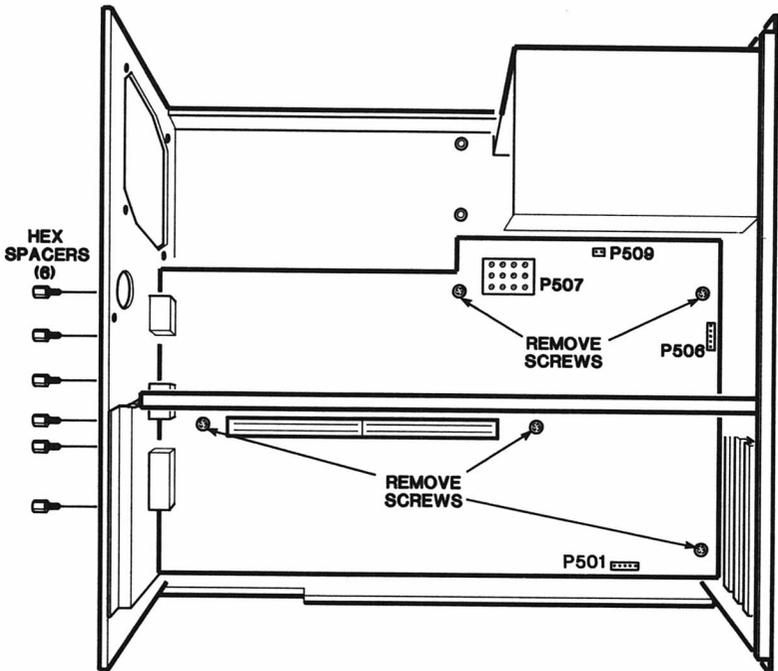

Figure 4-5. Main Board Removal
6. Remove the six threaded hex spacers that secure the two 9-pin serial port connectors and the 25-pin parallel port connector to the rear panel of the computer, as shown in Figure 4-5.
7. Remove the remaining four screws that secure the main board to the chassis, as shown in Figure 4-5.